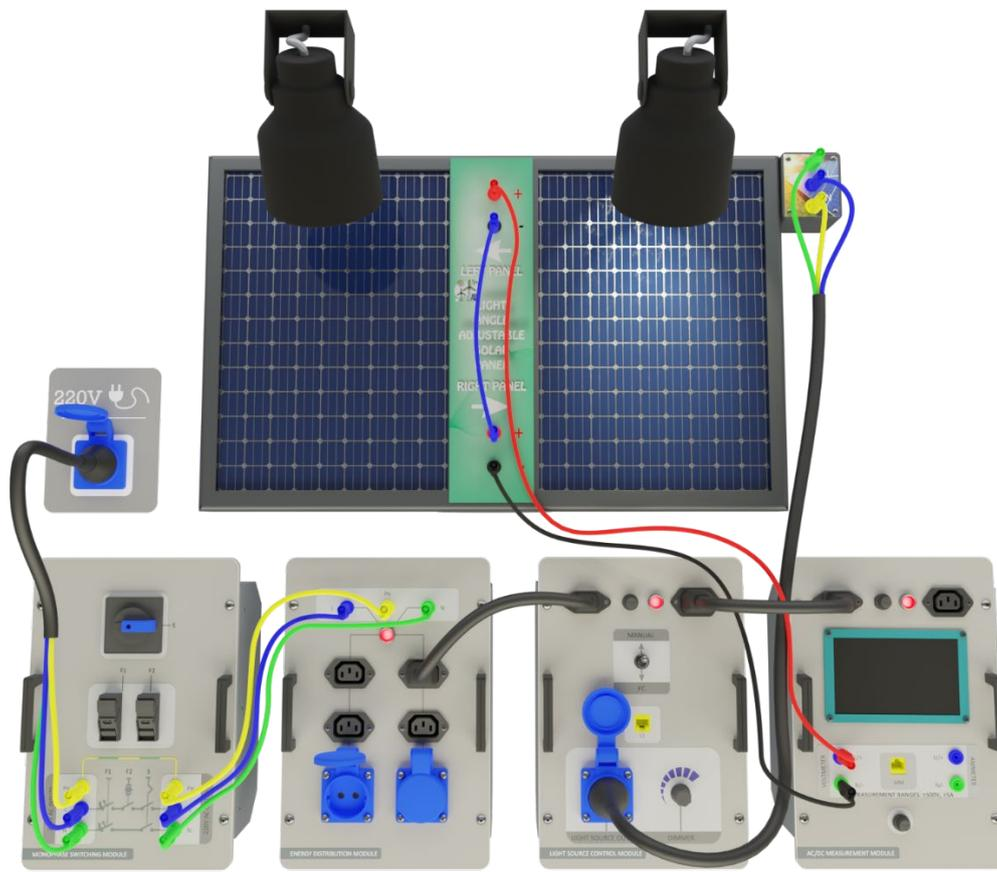

Figure-40. Installation Image of Examination of the Series Connection of Photovoltaic Panel
1. Set up the connection as specified in Figure-40. Ensure a constant level of light in the laboratory by creating an average scenario. Any alterations to the positions of the lamps or curtains will have an impact on the experimental outcomes.